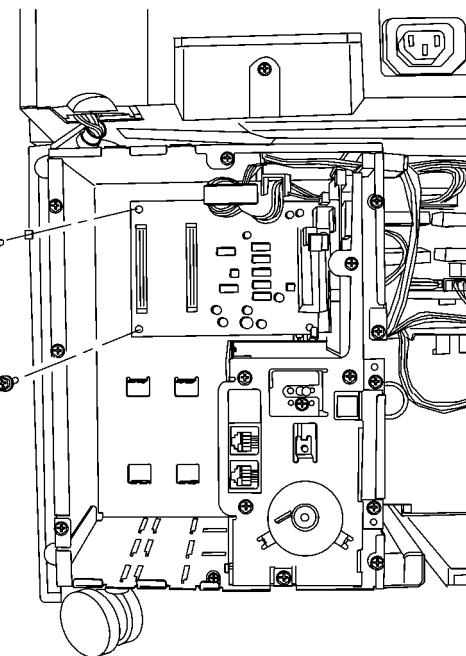

**Figure 14 Removing the Fax Module Cover**
3. Remove the Fax Module Cover (Figure 14).